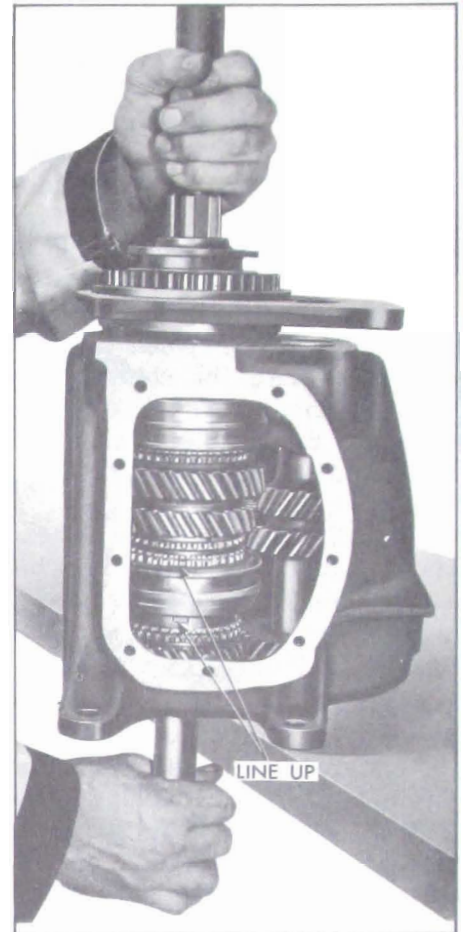

Figure 4-41—Installing Mainshaft Assembly
12. Lower the mainshaft assembly into the case, making certain that the notches on the fourth speed synchronizing ring correspond to the keys in the clutch assembly. See Figure 4-41.